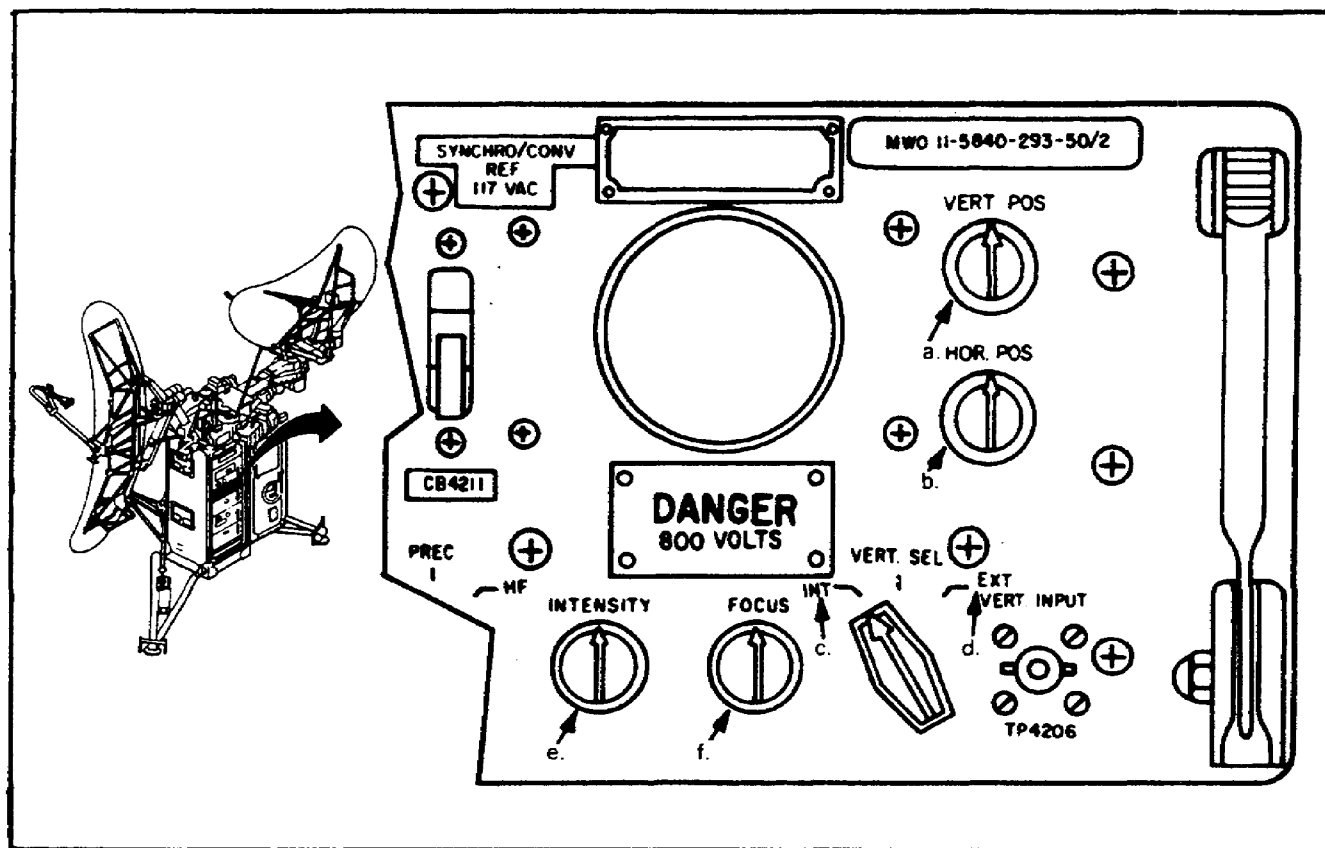

Figure 52. Synchroscope and its controls.
(1) Figure 52 shows the part of the control monitor that has the synchroscope and its controls.
(2) The function of the controls on the synchroscope as indicated in Figure 52 are as follows: